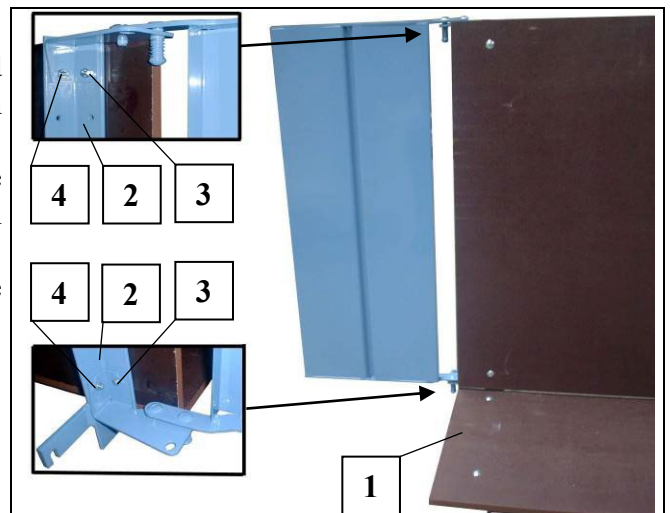

Fig. 41 Putting together the universal platform
- Mount folding side guards (5) (see Fig. 41) Assemble board (6) from above onto the bearing section with two screws respectively (7).